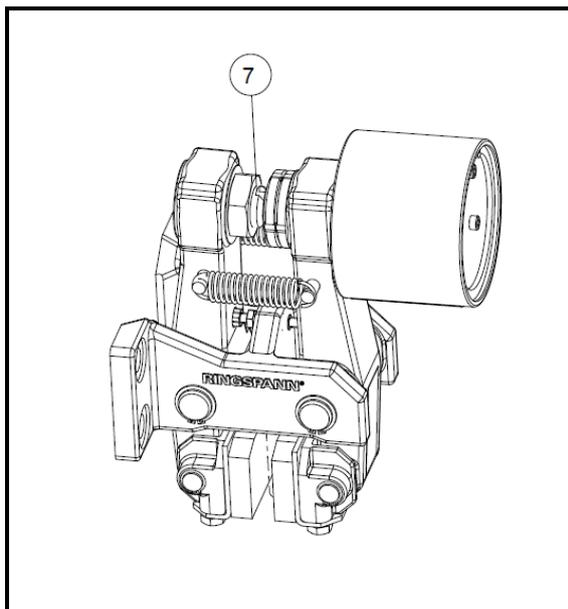

Fig. 8.2
There do exist two different versions of the brake. FPM with manual of adjustment pad wear and FPA with automatic adjustment of the pad wear. The FPA version is clearly recognizable. The set screw (item 7) has a slot, see Fig. 8.2.